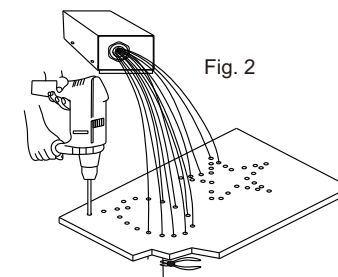

Fig. 2
- (1) Drill holes on the installing board according to the design. Then insert the fiber optic string into holes and fix it with epoxy glue. Trim the end of the fiber string to be flush with the board or at a required length. Fasten the other end of the fiber string to a harness and insert the harness into PG Connector and Fiber Connector. Apply the hot knife to cut fiber end flush with the Fiber Connector. (see Fig.2).
- (2) Insert the finished Fiber Connector into the Fixing Flange and screw tightly the Screw.